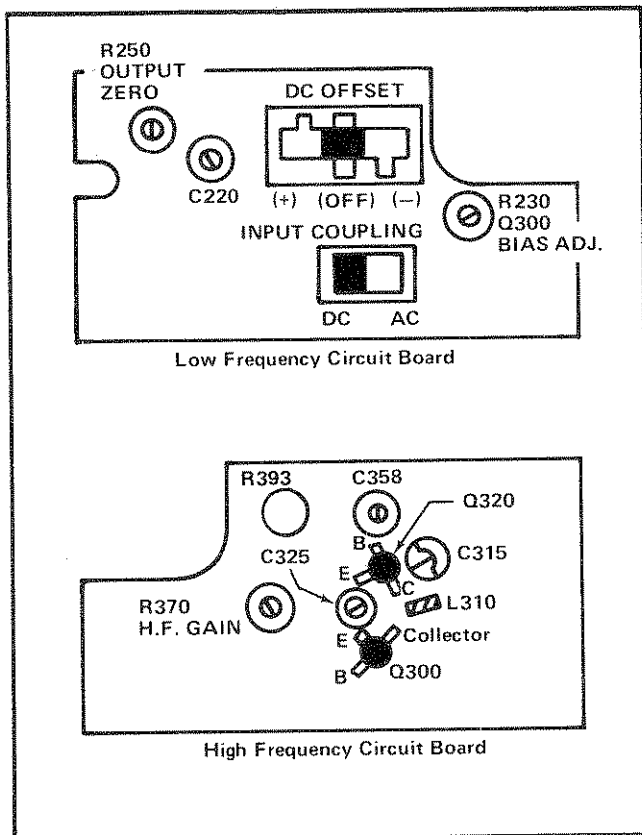
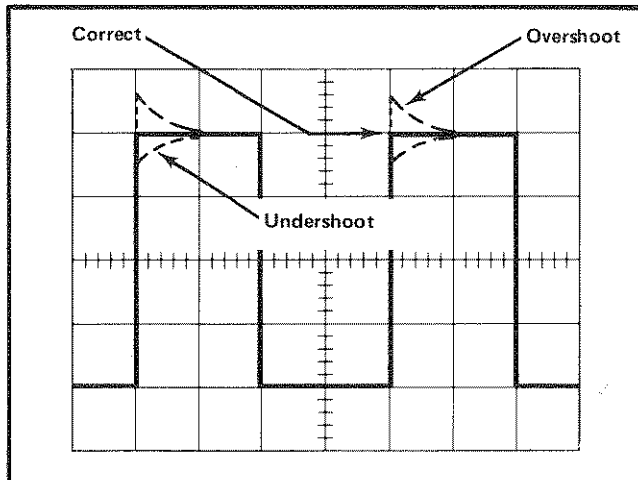

Fig. 5-1. Output amplifier adjustment and test point locations.
Fig. 5-3. Illustration showing overshoot, correct and undershoot examples of high frequency gain adjustments.
f. ADJUST—Output Zero, R250 (Fig. 5-1) to return test oscilloscope trace to ground reference point.
g. Connect a VOM between the collector of Q300 (Fig. 5-1) and ground.
i. ADJUST—Bias Adj., R230 (Fig. 5-1) for a meter reading of $0\text{ V} \pm 25\text{ mV}$.
c. CHECK—Test oscilloscope for a waveform whose leading corner is the same height as the low frequency amplitude. See Fig. 5-3.
d. ADJUST—HF Gain, R370 (Fig. 5-1) for a leading corner which is the same height as the low frequency amplitude. See Fig. 5-3.
c. ADJUST—C220 (Fig. 5-1) for a flat top on the waveform.